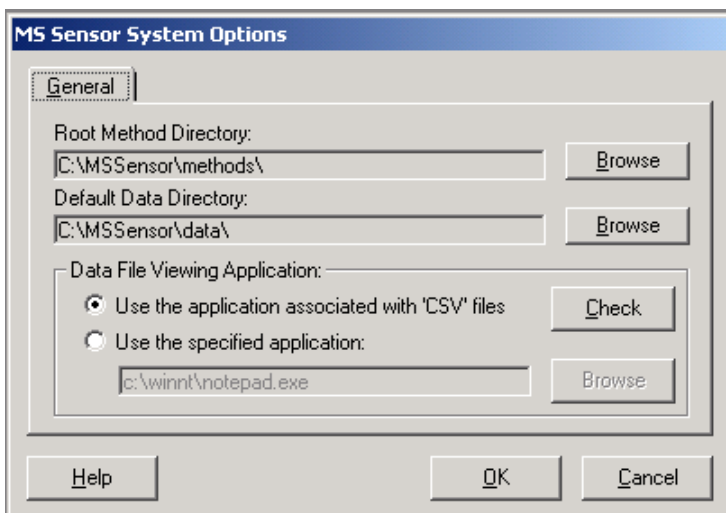

Figure 4 System options
- 2 Select **Tools/Options** from the menu at the top of the screen. The Options dialog box appears (Figure 4).